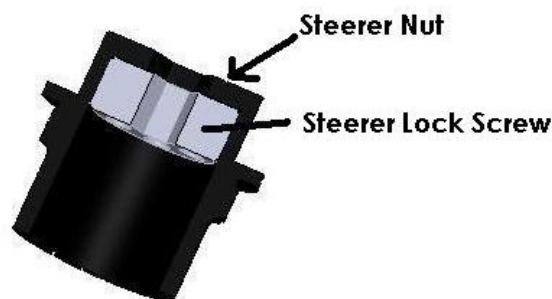

Fig. 2
- Using the 6mm Allen key, thread the Steerer Lock Screw into the Shaft Nut in until it hits the top of the Shaft Nut. Do not tighten the Steerer Screw down. You are just moving it out of the way for installation later. See Fig. 2